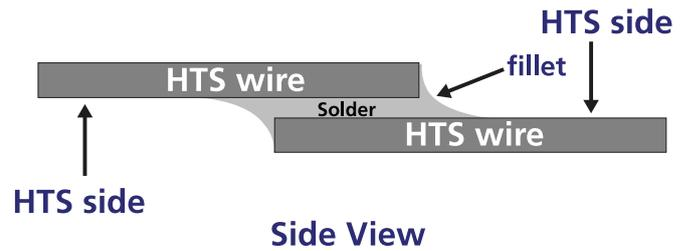

Figure 2. Overlap splice joint construction
A simple overlap joint can be used to join two Amperium wires with minimal electrical resistance. This configuration typically joins the HTS sides of two wires to produce the lowest resistance joint. Figure 2 illustrates the basic construction of this type of splice. (In applications that require maintaining the HTS orientation across the joint, a substrate side to HTS side splice can be used, but the electrical resistance will be significantly higher). The recommended length for a splice of this type is between 25 mm and 100 mm. As a guide to the electrical performance that can be expected of this type of joint, Table 4 lists some typical resistance values of overlap splices on Amperium wires.
- Ensure that each of the wire ends are filleted by solder (as shown in Figure 2) to help prevent separation during bending operations.